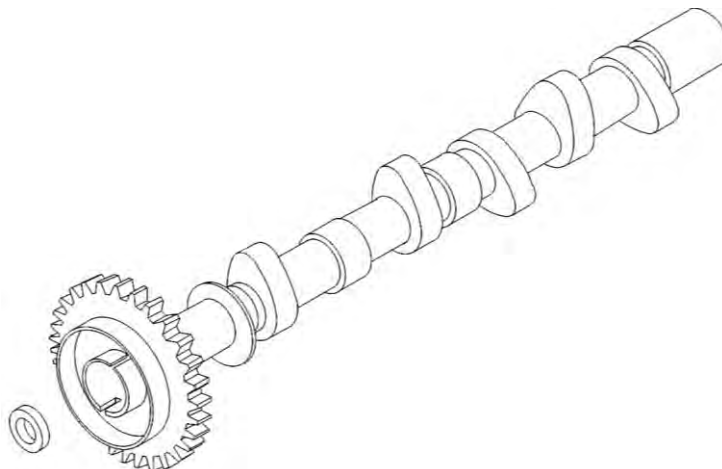

Figure 30
A. Camshaft - Visual Inspection (refer to Figure 30).
- (1) Refer to Figure 30. Carefully examine all surfaces of the camshaft for cracks, scoring, galling, corrosion, pitting, or other damage, paying particular attention to the bearing surfaces and camshaft lobes.